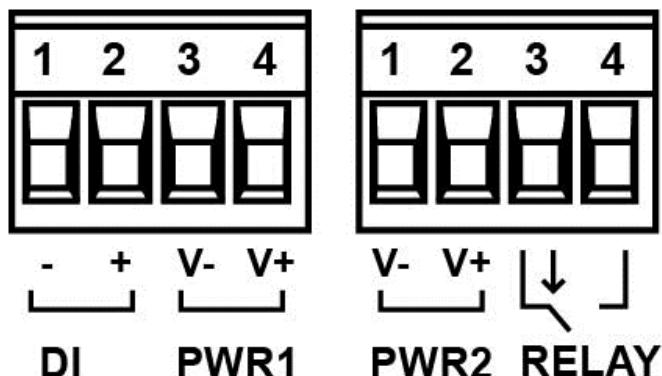

Figure 2.9: Power Terminal Block
- Step 1 Insert the positive and negative wires into the PWR1 (V1+, V1-) and PWR2 (V2+, V2-) contacts on the terminal block connector as shown below in Figure 2.9.